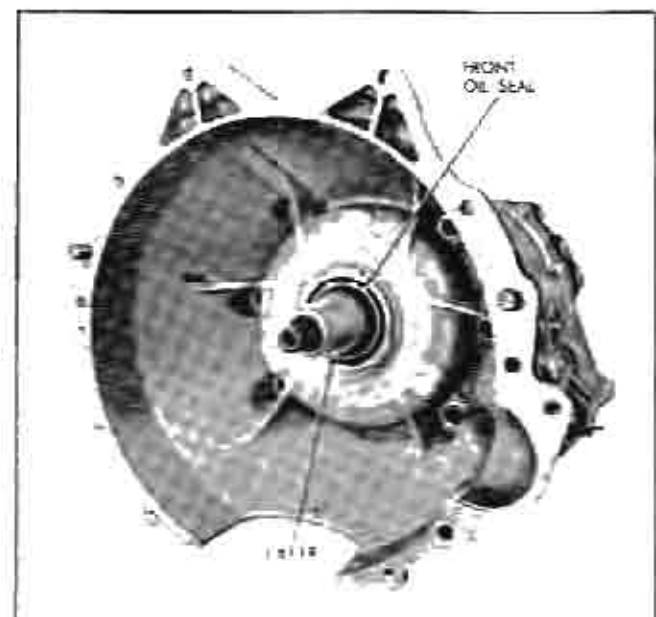

Fig. 49 Front Seal Protector in Place
15. Install seal protector J-6119 over intermediate shaft (Fig. 49).